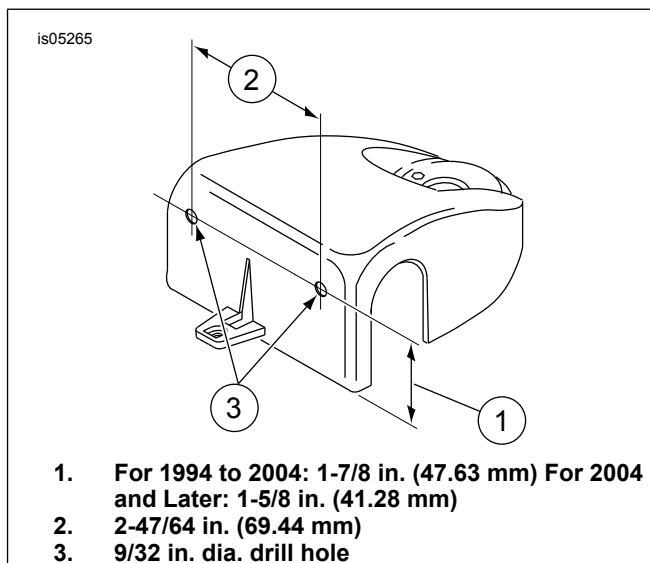

Figure 2. Shroud Hole Locations
- See Figure 2. Cover the front of the handlebar cover with transparent or masking tape.